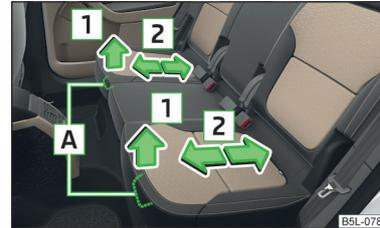

Fig. 67
- Pull lever **A** in the direction of arrow **1** and move the seat to the desired position in the direction of arrow **2** » Fig. 67.